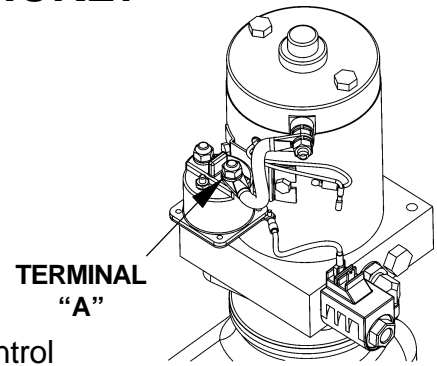

FIG. 9
1. Use voltmeter to verify that power is being supplied to Solenoid Terminal "A". Recharge the battery if voltmeter indicates less than 12.6 Volts ( FIG. 9).